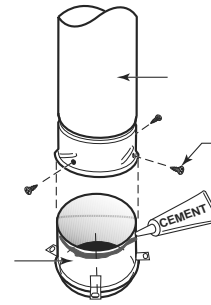

Figure 20 - Connect the inner starter with the next section of inner vent pipe.
3. Drill three pilot holes into the Inner Starter and secure the assembly with three sheet metal screws. (Figure 20)